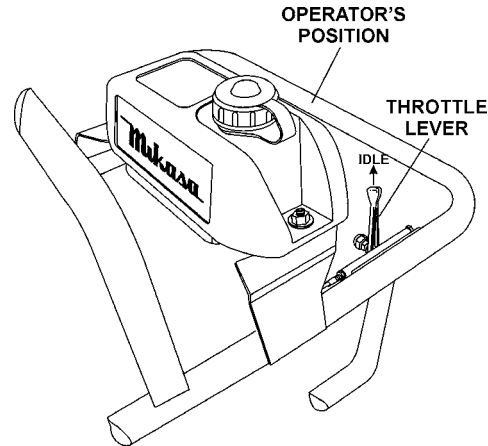

Figure 12. Throttle Lever (Idle)
1. Move throttle lever quickly from the **FULL OPEN** to **IDLE** position (Figure 12) and run the engine for three minutes at low speed. After the engine **cools**, turn the engine start/stop switch to the "**STOP**" position (Figure 8) until engine comes to a complete stop.